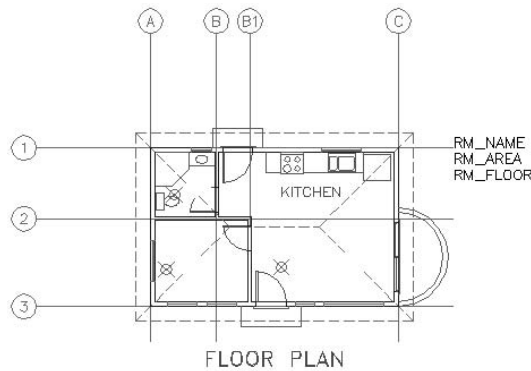

FIGURE B.10: The floor plan with all three attribute definitions
14. Repeat steps 10 through 13 to define the third attribute. For the tag, enter **rm_floor**. For the prompt, type **Floor Material**. For the value, enter **Wood Parquet**. Be sure the **Invisible** mode is still checked, and put a checkmark in the **Align Below Previous Attribute Definition** check box, if one isn't already there. Click **OK**. All three attribute definitions are now in the drawing (see Figure B.10).